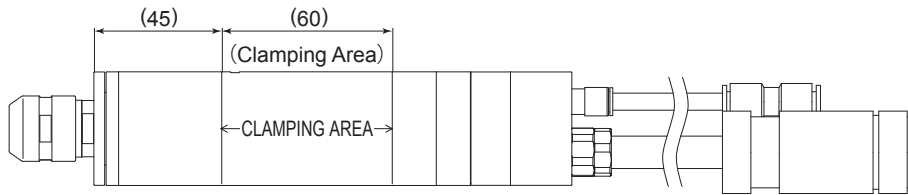

Fig. 13
① When mounting a motor spindle, refer to the Clamping Area etched on the motor spindle. (Fig.13)